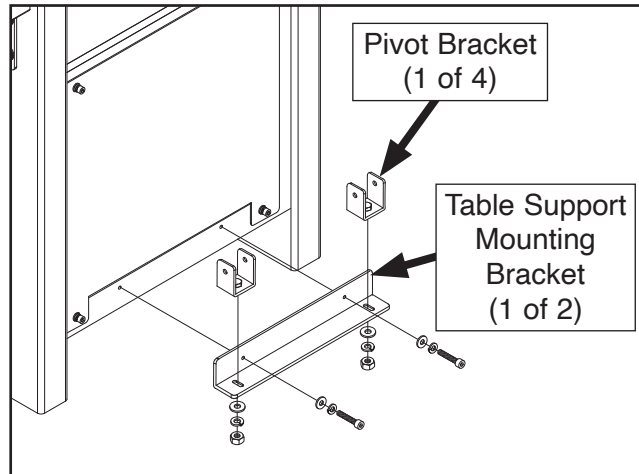

**Figure 8.** Attaching table support mounting brackets and pivot brackets to machine (outfeed end shown).
1. Attach (2) table support mounting brackets to infeed and outfeed ends of machine with (4) M6-1 x 20 cap screws, (4) 6mm lock washers, and (4) 6mm flat washers (see **Figure 8**).
2. Attach (4) pivot brackets to table support mounting brackets with (4) M8-1.25 hex nuts, (4) 8mm lock washers, and (4) 8mm flat washers (see **Figure 8**).